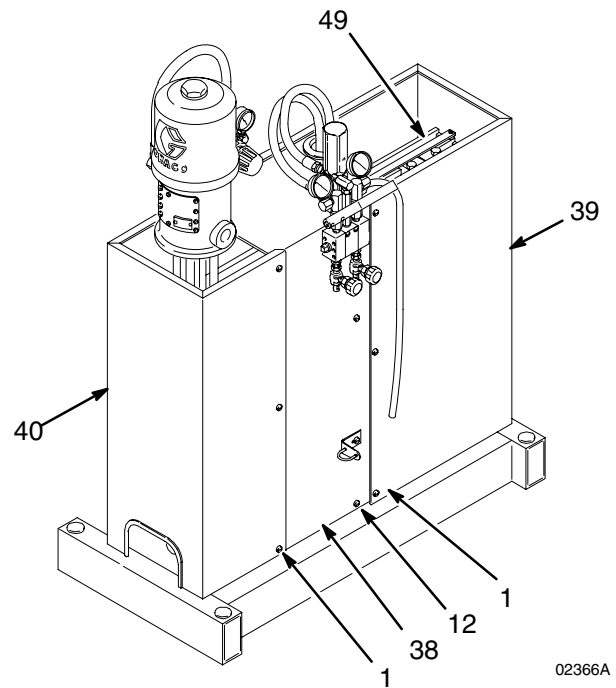

Fig. 10
2. Remove the safety panels (38,39,40). See Fig. 10.